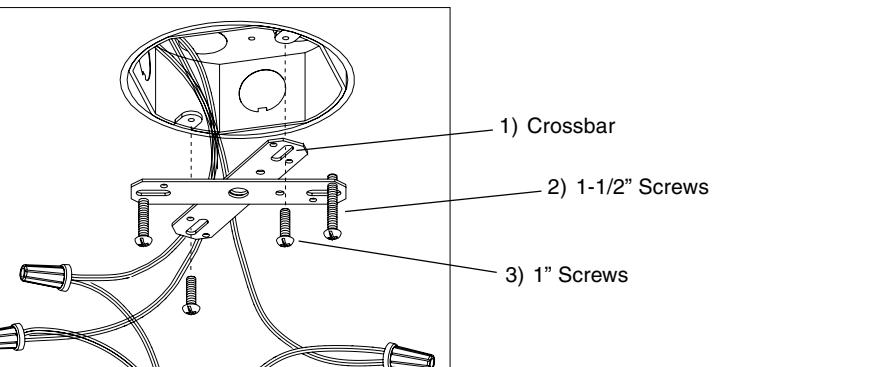

Figure 2
2. Install Crossbar (1) to Junction box: Rotate one Crossbar until all holes & slots in both are visible. Align slots of top Crossbar over mounting holes in Junction box and secure Crossbar to Junction box by inserting 1" Screws (3) through each slot. See Fig. 2.
3. Install fixture mounting screws : Partially install two 1-1/2" Screws (2) into the outermost holes of the other Crossbar.